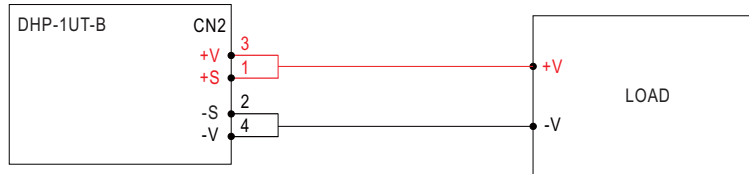

Figure 5-9 Connection of Local Sense
- For Local Sense, the +S and -S have to be connected to the +V(signal) and -V(signal), respectively, as shown in Figure 5-9, in order to get the correct output voltage if Remote Sense is not used. Otherwise, the output voltage will increase to an extremely high level which may trigger OVP.